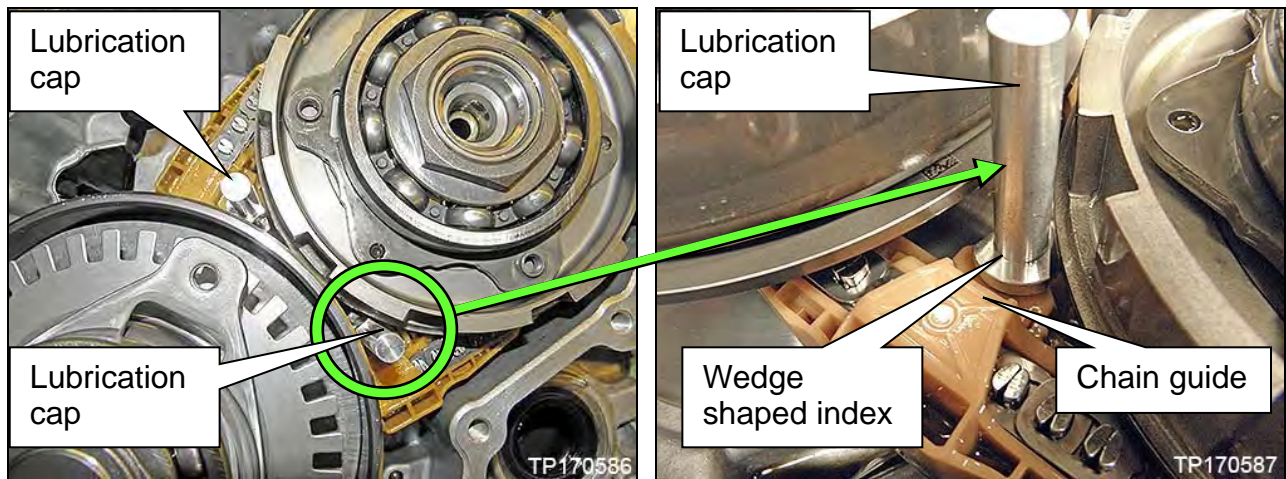
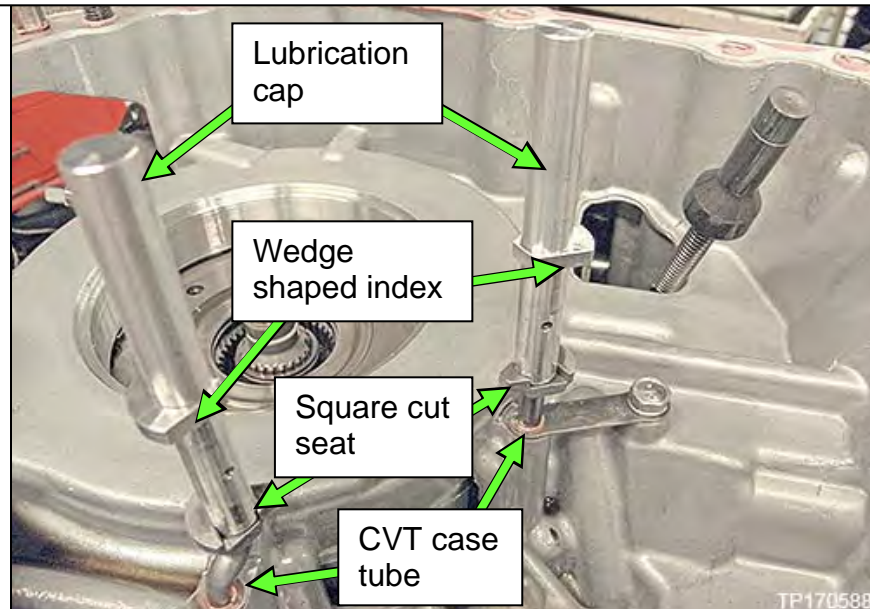

Figure 3F
Figure 4F
4. Install two (2) new lubrication caps (see Parts Information) shown in Figure 3F onto the tubes of the CVT case shown in Figure 4F as follows: